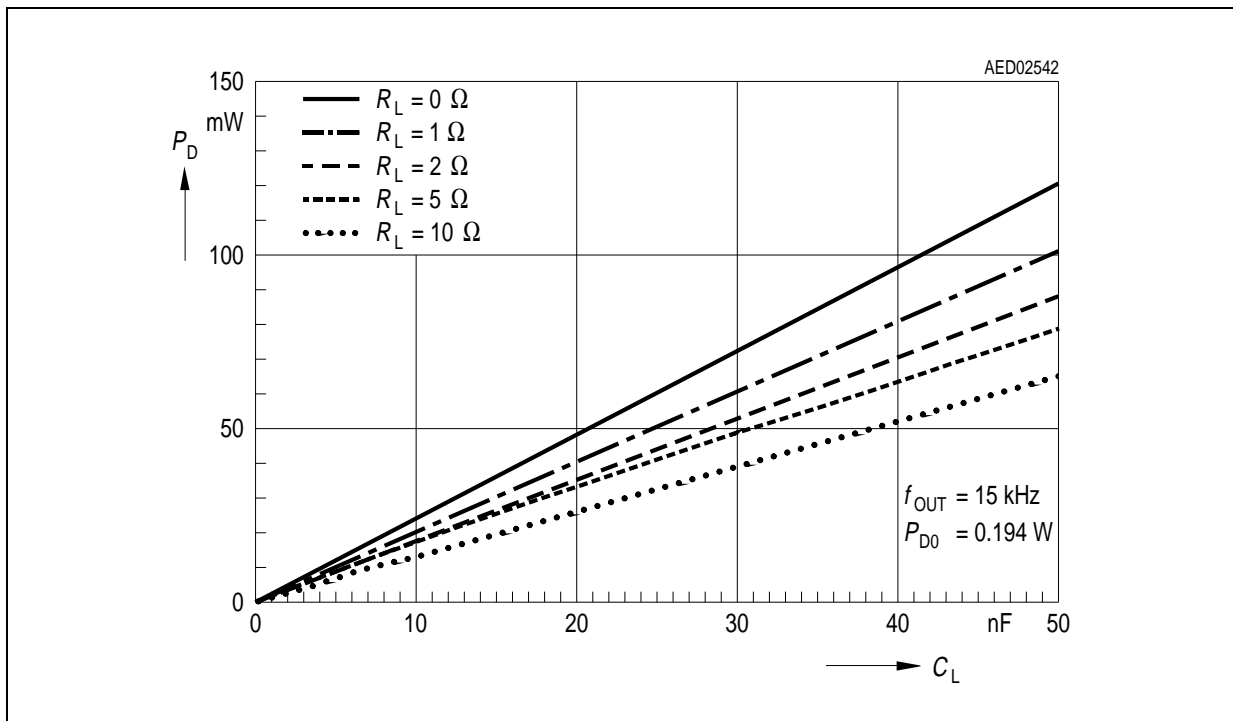
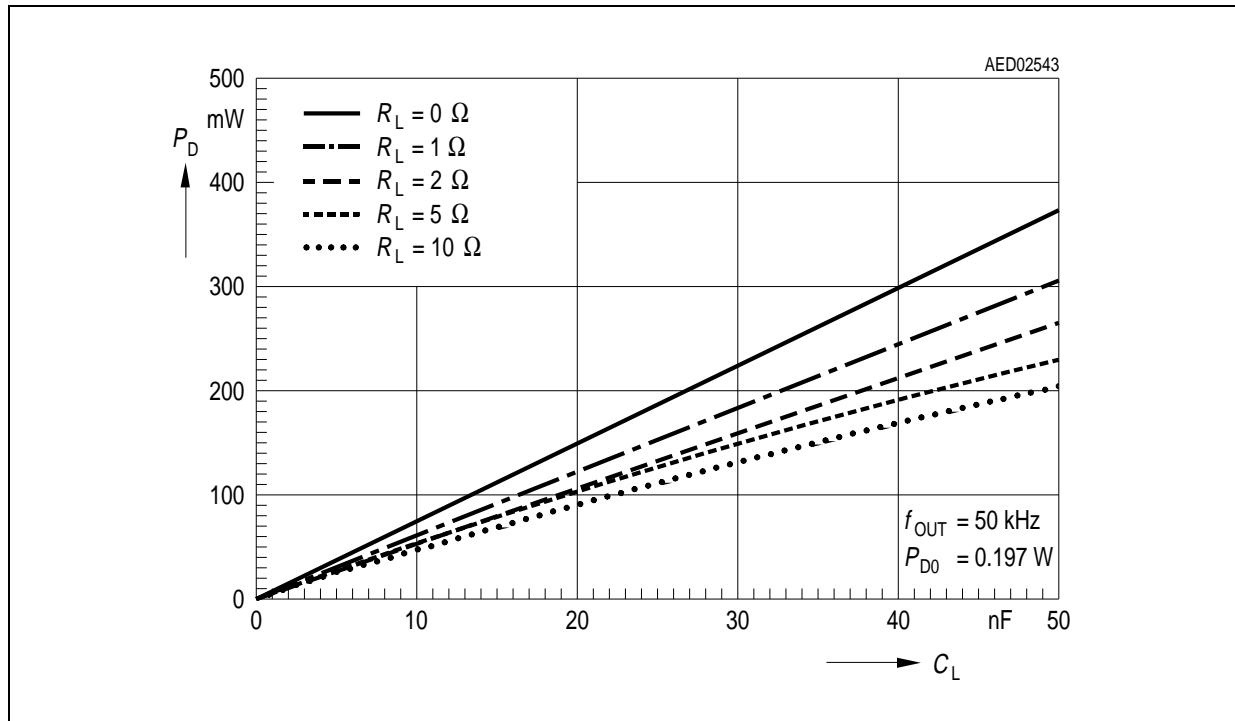
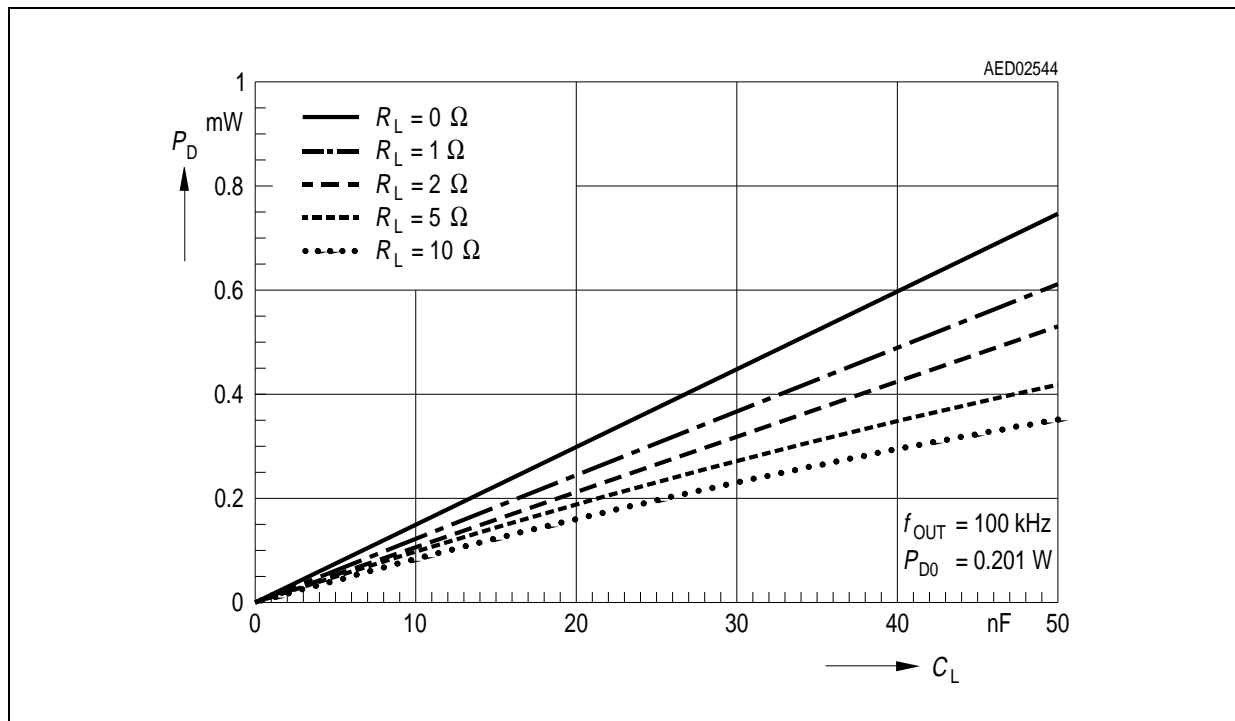
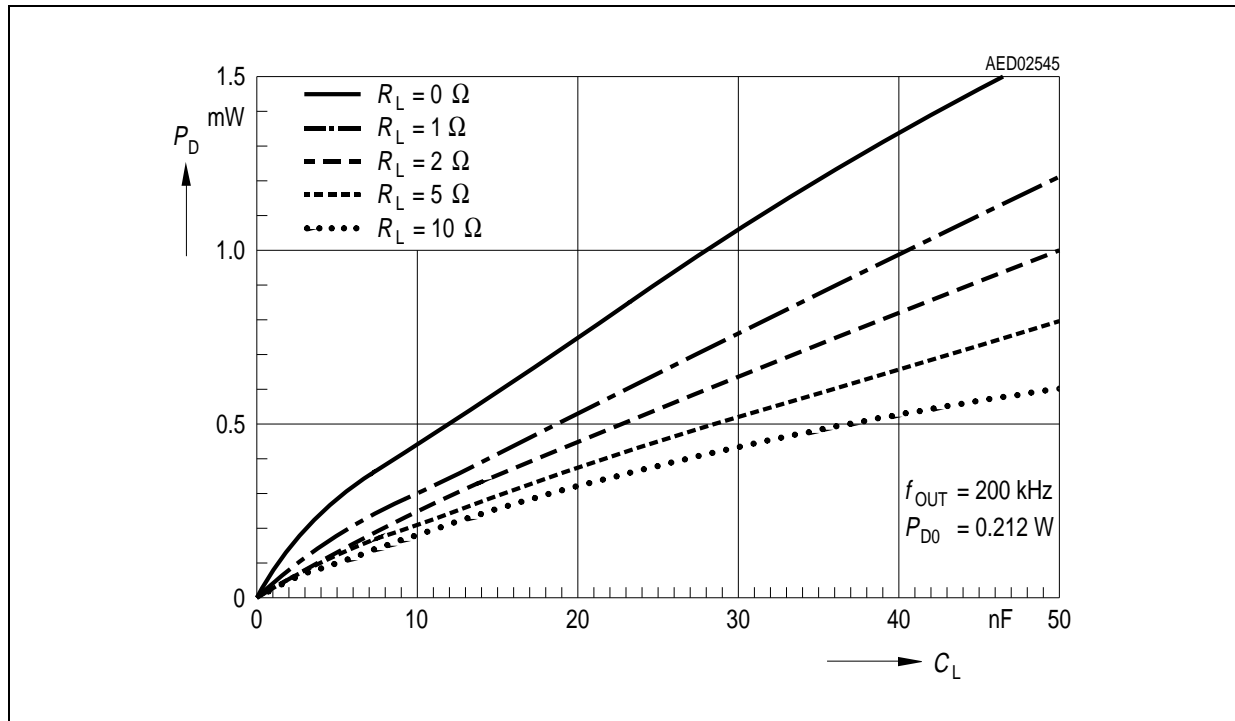

Figure 14 Power Dissipation of Single Gate Driver at $f_{OUT} = 15 \text{ kHz}$
Figure 15 Power Dissipation of Single Gate Driver at $f_{OUT} = 50 \text{ kHz}$
Figure 16 Power Dissipation of Single Gate Driver at $f_{OUT} = 100 \text{ kHz}$
Figure 17 Power Dissipation of Single Gate Driver at $f_{OUT} = 200 \text{ kHz}$
3) The gate driver's output performance is characterized in **Figure 14, Figure 15, Figure 16** and **Figure 17**.